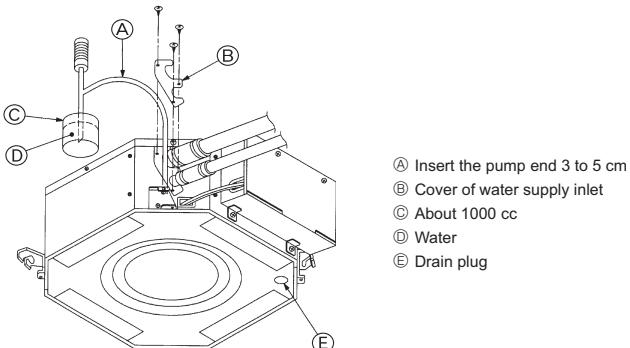

Fig. 6-8
6.3. Check of drainage (Fig. 6-8)